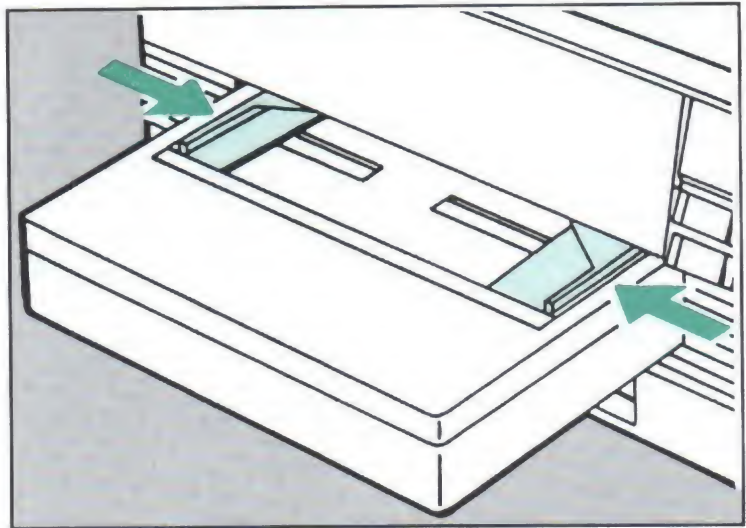

Figure 5-4. Adjusting the Manual Feed Guides
3. Adjust the manual feed guides to the width of the media (Figure 5-4).
11. Insert a legal sheet of paper between the manual feed guides. Adjust the guides to the size of the paper (Figure 5-4). Slide the paper into the printer until it
6. Adjust the guides to the size of the envelope (see Figure 5-4).